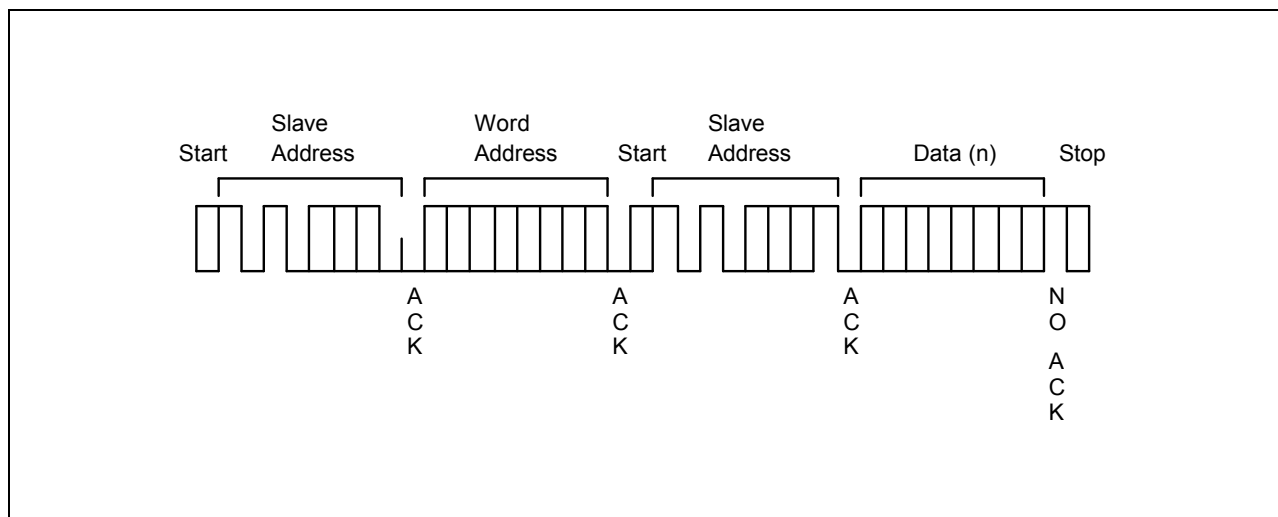

Figure 5-13. Random Address Byte Read Operation
5. The 24LLC16 stops transmitting data and reverts to stand-by mode (see Figure 5-13).